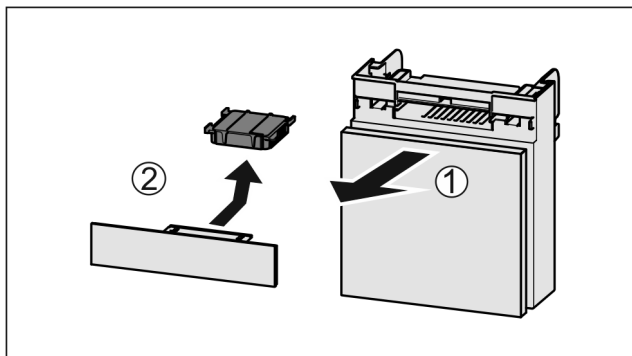

Fig. 272
- Pull out the compartment Fig. 272 (1).
- Remove the carbon filter Fig. 272 (2).